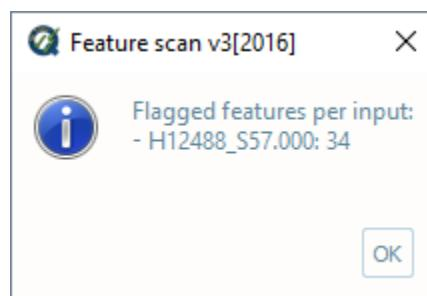

Fig. 2.63: Feature scan's output message.
- After computing, the output window opens automatically, and the results are shown (Fig. 2.63).